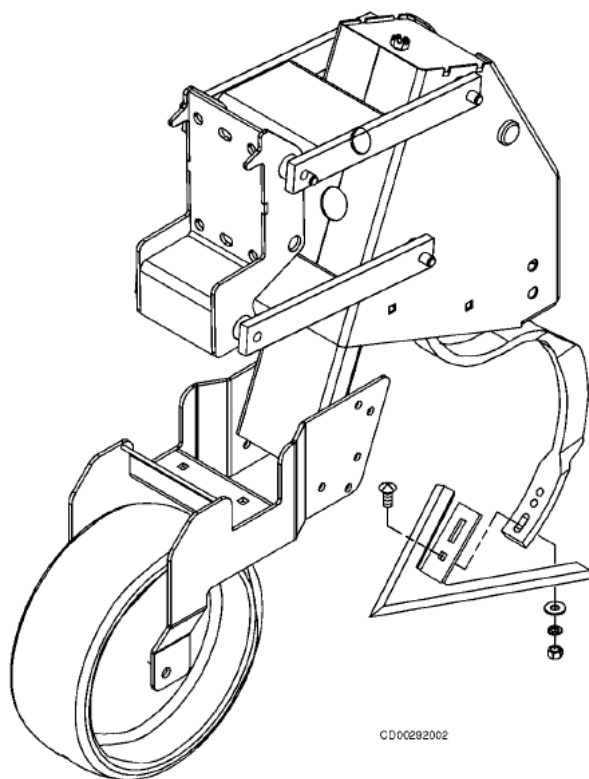

Figure 35 Adjusting Sweep Pitch
1. Adjust pitch by selecting a different hole on the tine (straight edge tine). Use pitch adjusting screw. See Figure 35.